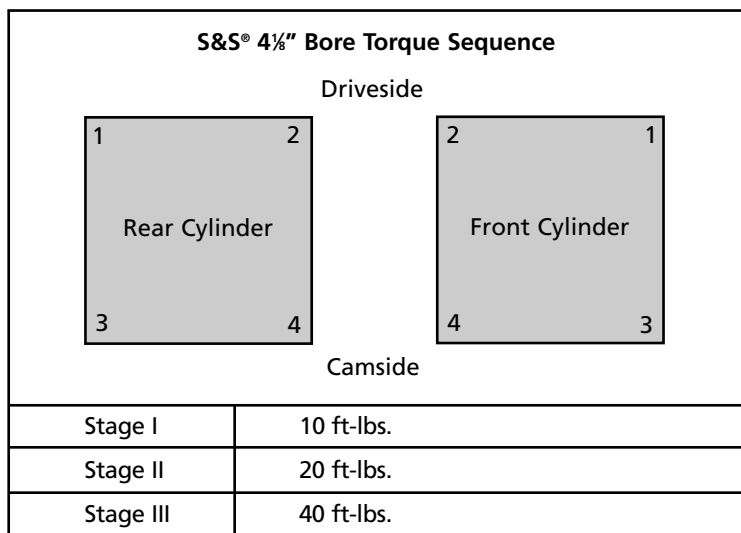

Figure 1
- 7- Torque bolts to 40 ft-lbs. in same pattern used to install heads during engine assembly. See **Figure 1**. Tighten bolts in following stages: